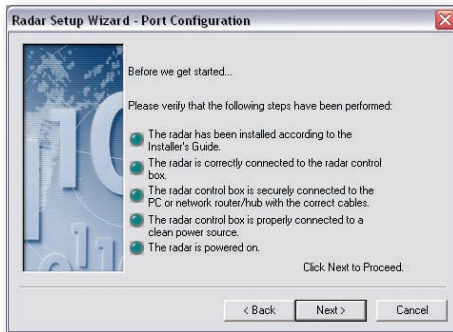

Figure 4.1 - Radar Setup Wizard - Port Configuration
3. Verify that you have accomplished all of the requirements as outlined by the bullet points shown in **Figure 4.1** and then click **Next**.